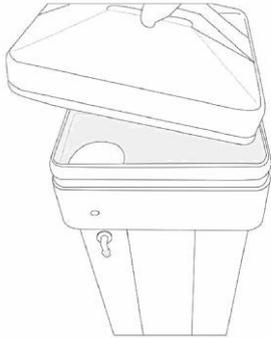

Figure 13
- Locate the included brine tank, and remove the brine tank cover shown on the following page in Figure 13.